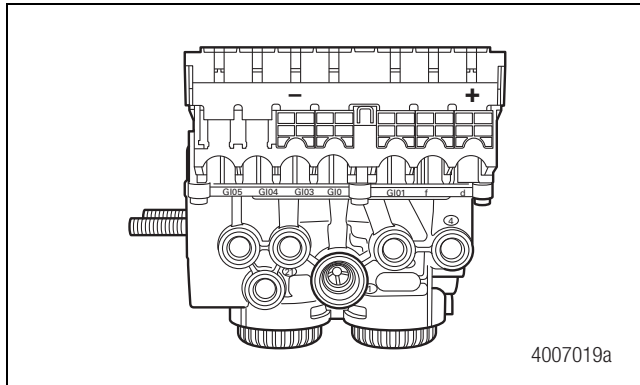

Figure 2.1
- The ECU/Valve Assembly may be mounted with the sensors facing either the front or rear of the trailer. Figure 2.1.